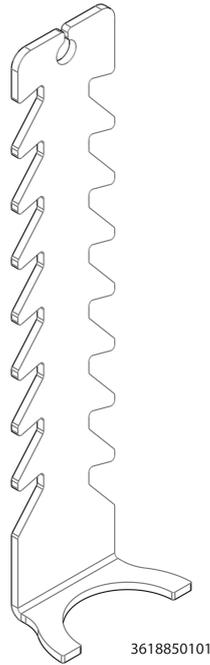
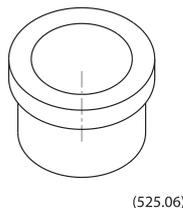

Figure 15: Seal puller
Figure 16: Spacer extension sleeve (525.06)
1. **Disassembly with cartridge seal:** thoroughly clean the top end of the shaft (210), loosen the three grub screws (904) partly and remove the four hexagon socket head cap screws (914.03). Place a screwdriver under the lips on the seal cover (471) lift the cartridge seal out of the motor stool (341) from the shaft (210).
2. **Disassembly with easy access seal:** thoroughly clean the top end of the shaft (210), and remove the four hexagon socket head cap screws (914.03). Place a screwdriver under the lips on the seal cover (471) and lift the seal cover out of the motor stool (341.02) from the shaft (210). To lift the seal, place the seal puller 22 mm (see figure: 15 Seal puller) under the seal extension sleeve see figure 16 Spacer extension sleeve (525.06) V(C/S). Remove the seal extension sleeve (525.06) and seal rotor at once by using a screwdriver and seal puller lifting step by step.